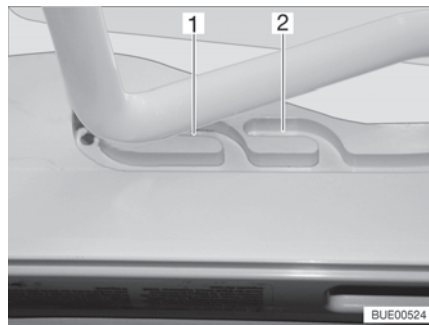
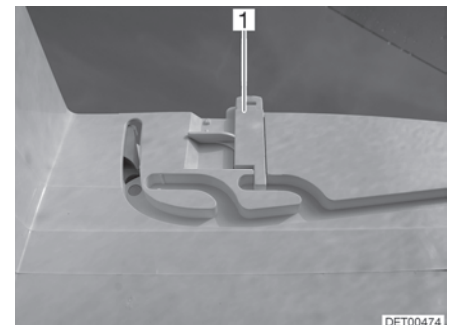

Fig. 53 Guide (ventilation position)
Fig. 54 Lock (ventilation position)
The Heki skylight can be put in two ventilation positions: Bad weather position (Fig. 53,1) and central position (Fig. 53,2). Depending on the model, the skylight can be locked in the central position with both left and right latches (Fig. 54,1) on the skylight frame.
- Push the bar slightly upwards and into the selected guide (Fig. 53,1 or 2) and lock if necessary.